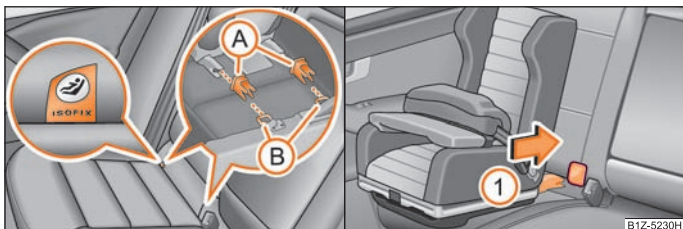

Fig. 149 Locking eyes (ISOFIX system)/Push the ISOFIX child seat into the installed mounting funnels
There are two fixing eyes between the seat backrest and the seat cushion of the front passenger seat for fixing the "ISOFIX" system child seat in place. The locking eyes on the rear outside seats are located below the upholstery. The places are marked with signs with the logo "ISOFIX" ⇒ fig. 149 - left.
- Insert the mounting funnels (A) onto the locking eyes (B) between the seat backrest and the seat cushion ⇒ fig. 149.
- Push the notched arms of the child seat into the locking eyes in direction of arrow (1), until they are heard to lock in place ⇒ fig. 149.